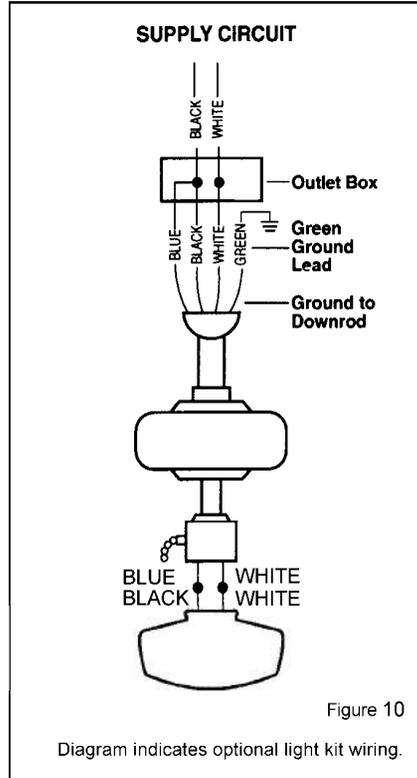

Figure 10
**Step 3** Connect the fan light supply wire and the fan supply (black & blue) wire to the black household supply wire as shown in Figure 10.